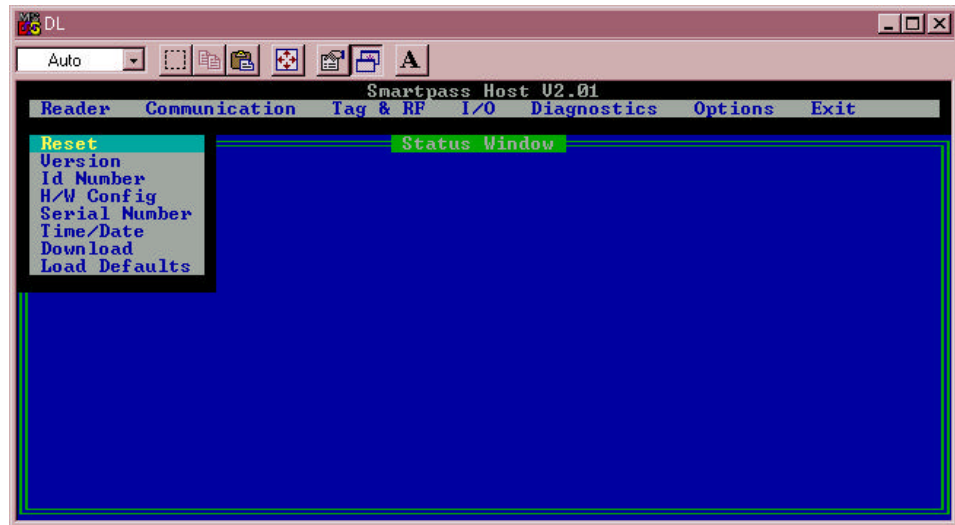

Figure 4-15 Reader Reset option
1. Select the **Reader** drop-down menu and click the **Reset** option, as shown in Figure 4-15.